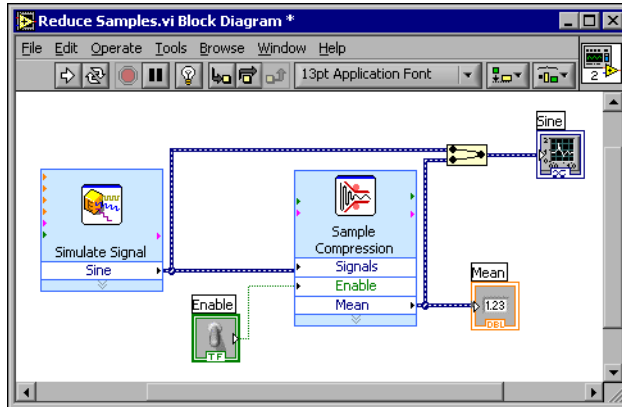

Figure 3-2. Block Diagram for the Reduce Samples VI
6. Arrange the objects on the block diagram so that they appear similar to Figure 3-2.